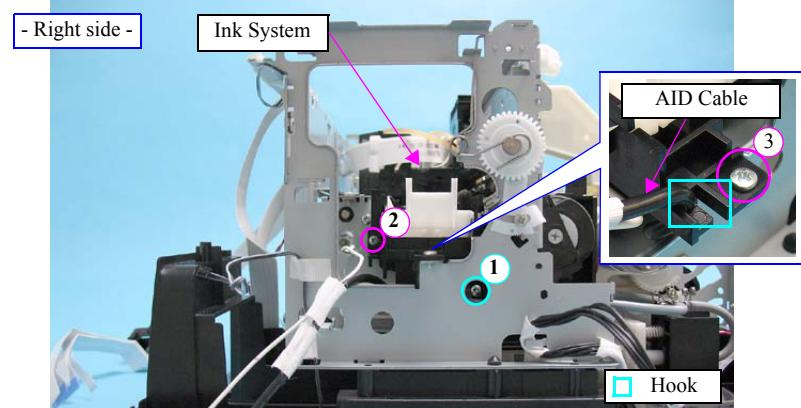

Figure 4-239. Removing the Ink System (2)
- Route the AID cable through the hook on the Ink System as shown in Figure.4-239.
- Tighten the screws in the order indicated in Figure.4-239.